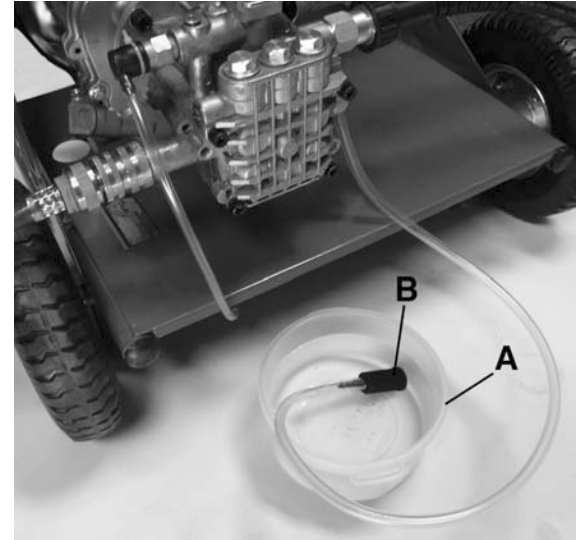

Figure 11
- 1) Pour the contents of your detergent into a container (A) Fig.11 and place it next to the pressure washer pump.
- 3) Inspect the detergent injector filter (B) Fig.11, make sure it is not clogged. Then place it all the way to the bottom of the container. The detergent will automatically mix with the water.